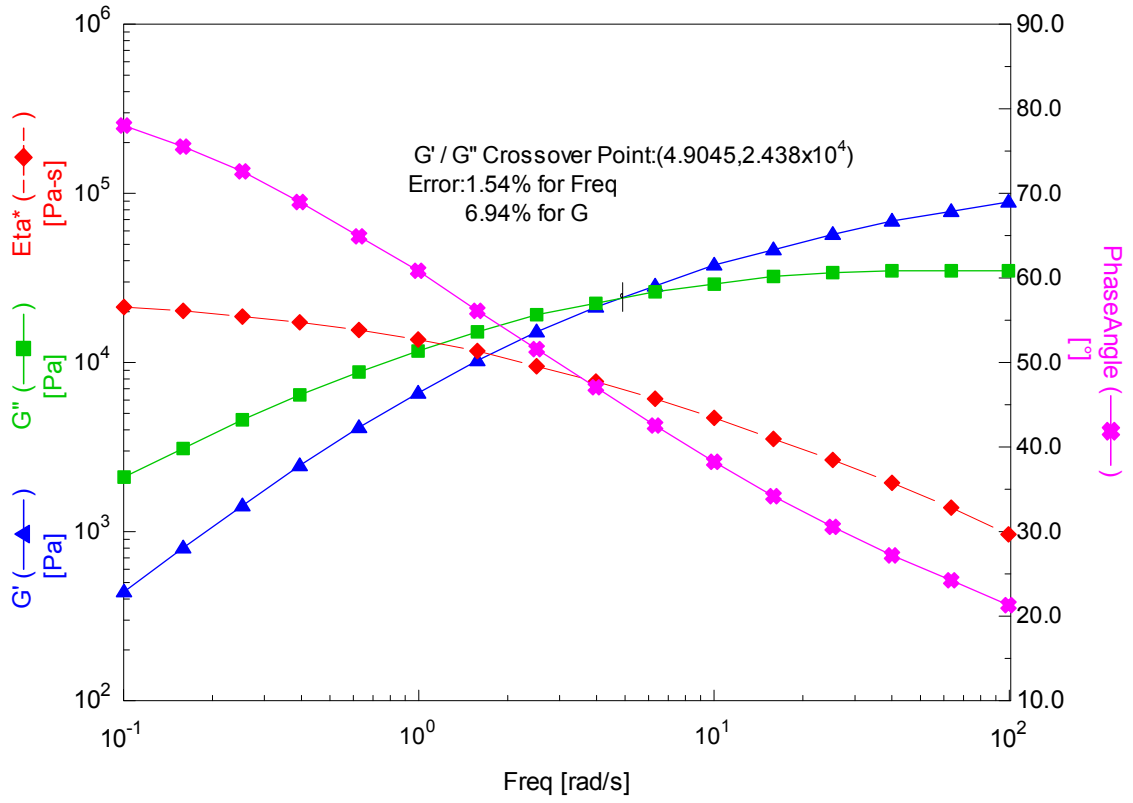

Figure 5-10. Typical Results of PDMS Tests
6. Set up the plot to show G' , G'' , viscosity, and phase angle. The displayed data should look similar to that shown in Figure 5-10.